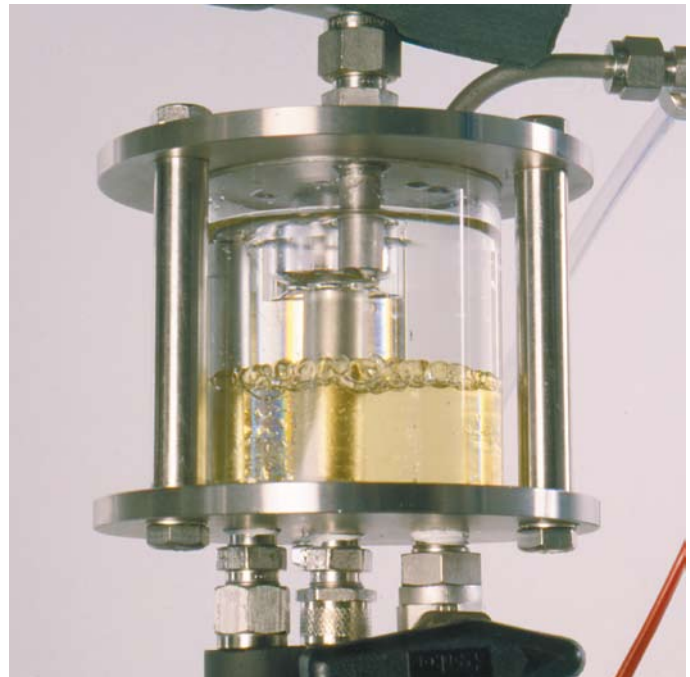

Fig. 7: Reflux separator during azeotropic distillation of a water/organics mixture
- demonstration of azeotropic distillation (Fig. 7)